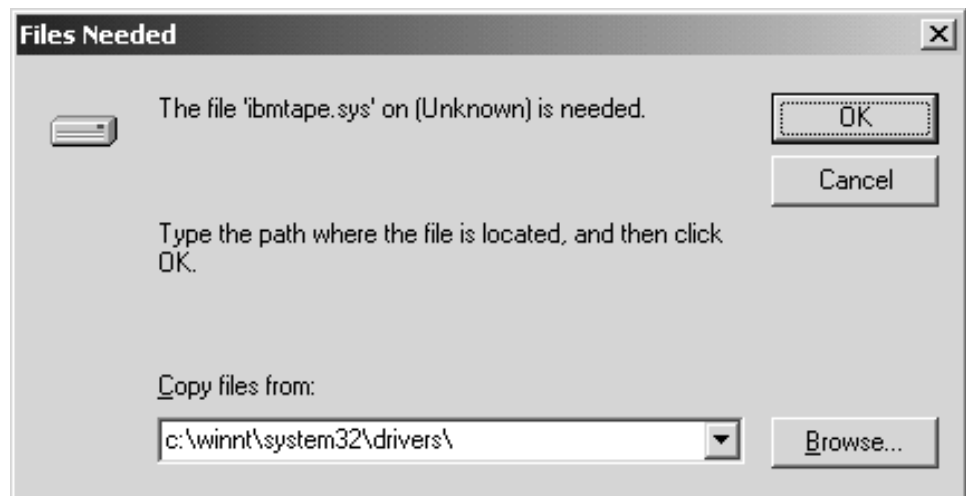

Figure 33. Files Needed Menu — ibmtape.sys
13. Windows 2000 should now ask for the location of your Ultrium device driver files. Enter the location of your device driver files in the Copy files from: box in the Files Needed window. See Figure 33.